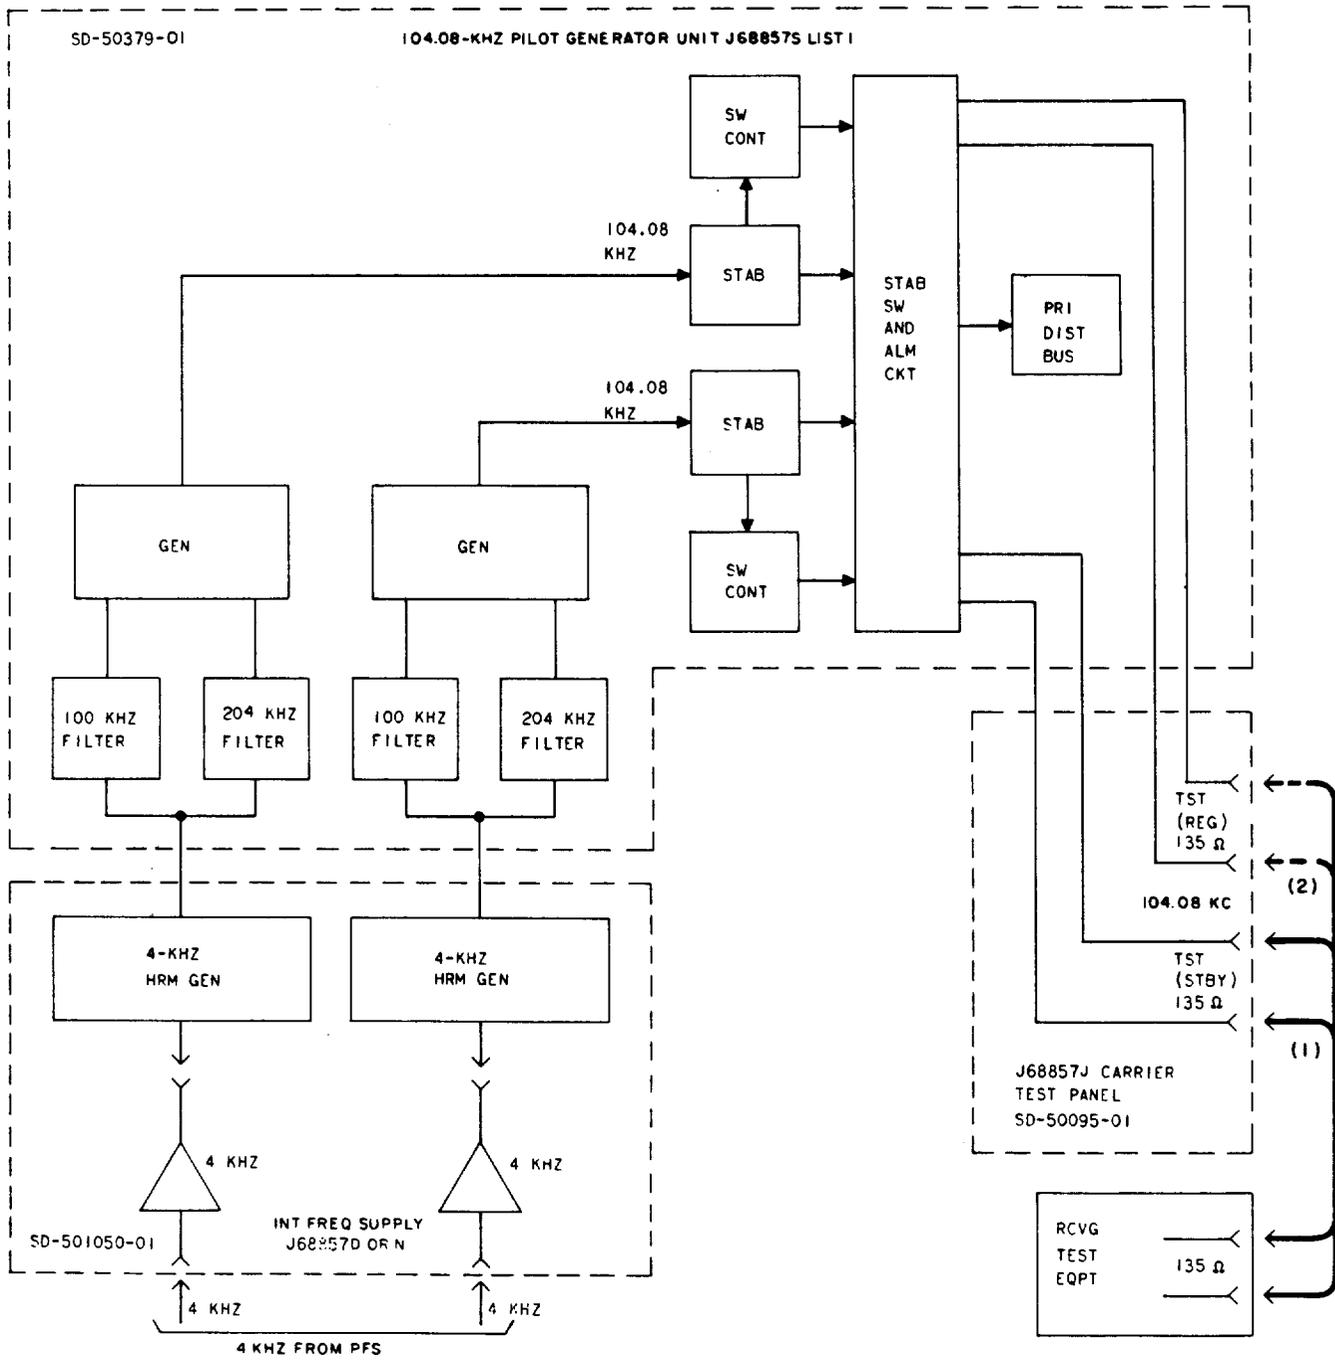

Fig. 7—Stabilizer Output Test for Pilot Supply J68857S List 1
2	Measure the pilot power at the 104.08 KC TST STBY jack on carrier test panel J68857J [patch (1), Fig. 7].
8	Remove patch (1), Fig. 7.
9	Make [patch (2), Fig.7].
16	Remove patch (2), Fig. 7.